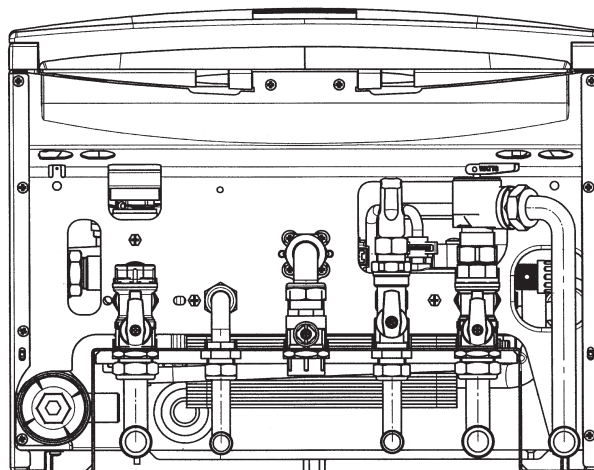

Fig. 18
4.5 CONNECT THE PIPEWORK- Fig. 18
4.5 CONNEXIONS AU RÉSEAU - Fig. 18